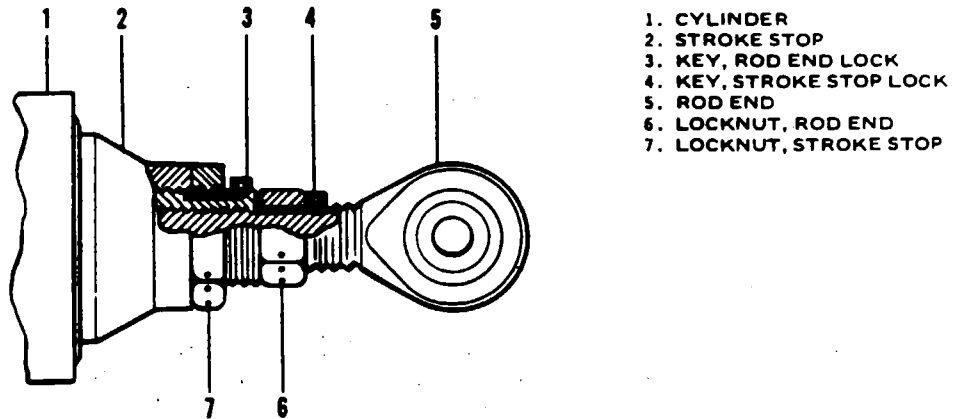

Figure 32-3. Actuator Cylinder
16. Back off the stroke stop one-half turn and tighten locknut on stop. Place the key locks between the locknut and the keyway in the rod. Screw the locknut on the rod and keep the key lock centered in the keyway while tightening the locknut. With the locknut torqued, install the lock wire from the key lock to the locknut. Refer to Figure 32-3 which shows the proper installation of the locks and locknuts on the piston rod end.